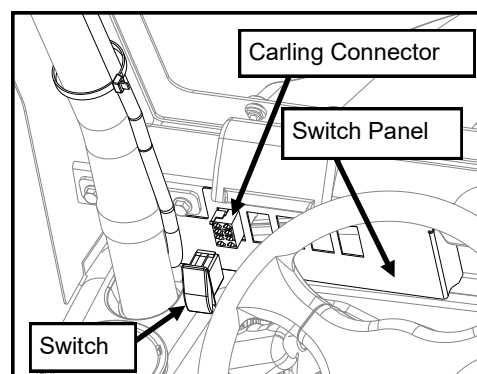

Fig. 3.B
3. Route the Carling 8-pin connector (on provided wiring harness) through one of the rectangular cut-outs in the switch panel. Plug the Carling connector into the back of the switch. Snap the switch into the switch panel. (See Figure 3.B). Install any additional accessories and then fasten the switch panel to the windshield.